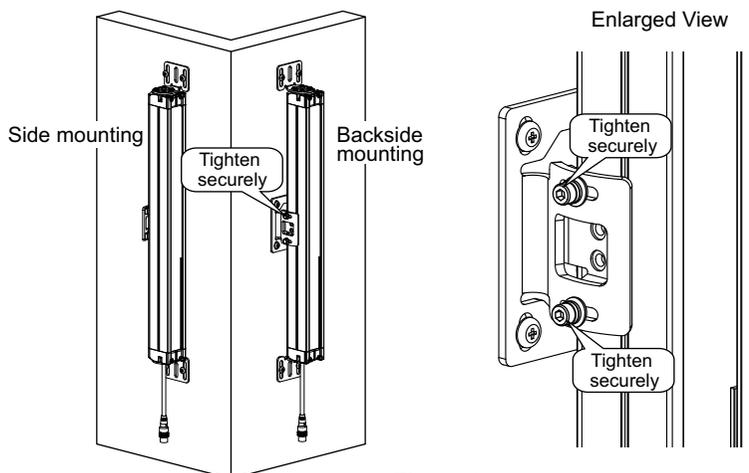

Figure 15
9. Tighten the lightly fastened two hexagon socket head cap screws (M4 x 10) of the intermediate mounting bracket (2) and intermediate mounting bracket (3). (Figure 15)